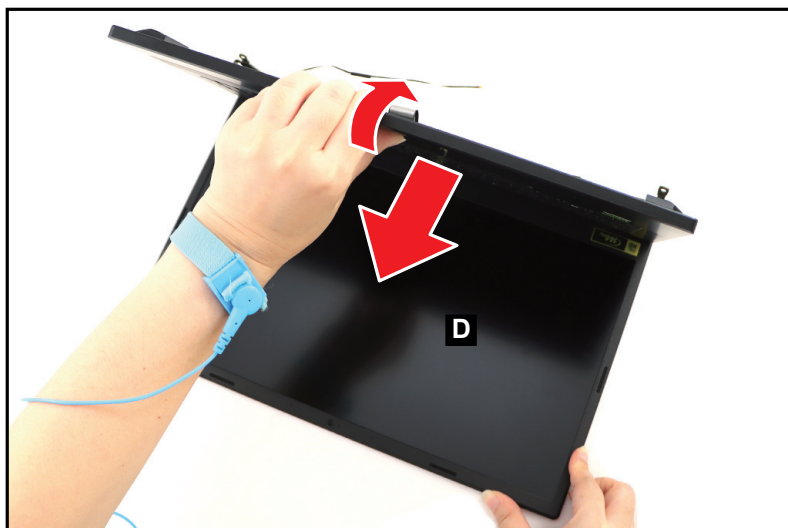

Figure 1-30. LCD Module Removal
7. Open the top assembly again. Then remove the top assembly away from the LCD module (D) (Figure 1-30).